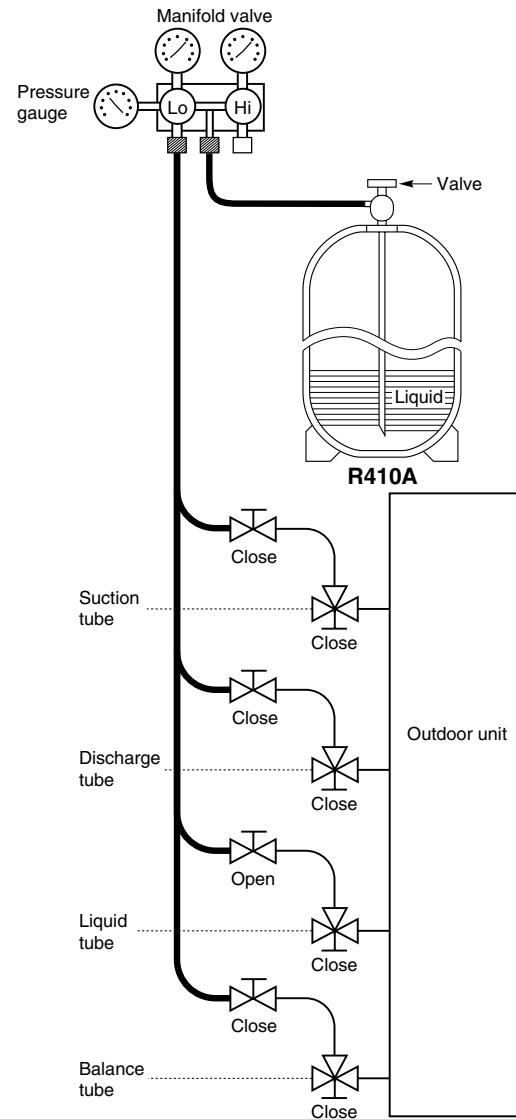

Fig. 7-5
- Charging additional refrigerant (calculated from the liquid tube length as shown in Section 1-8 "Additional Refrigerant Charge") using the liquid tube service valve. (Fig. 7-5)